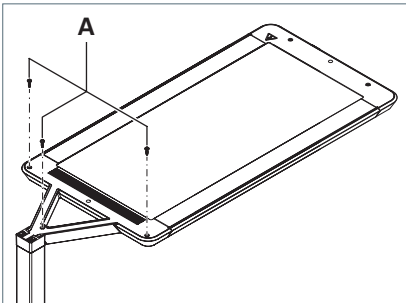

Fig. 9: Screwing the cover tight.
- Screw the cover tight using the three screws **A**, see Fig. 9.